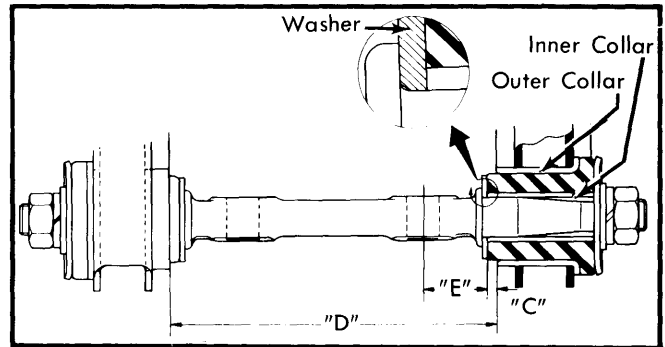

Fig. 3 Showing Installed Positions of Bushings for Upper Control Arm
**Installation** - 1) Apply soapy solution or other lubricant to rubber bushing and press into place from outer side of control arm until bushing protrudes as specified for dimension "C". See Fig. 3.